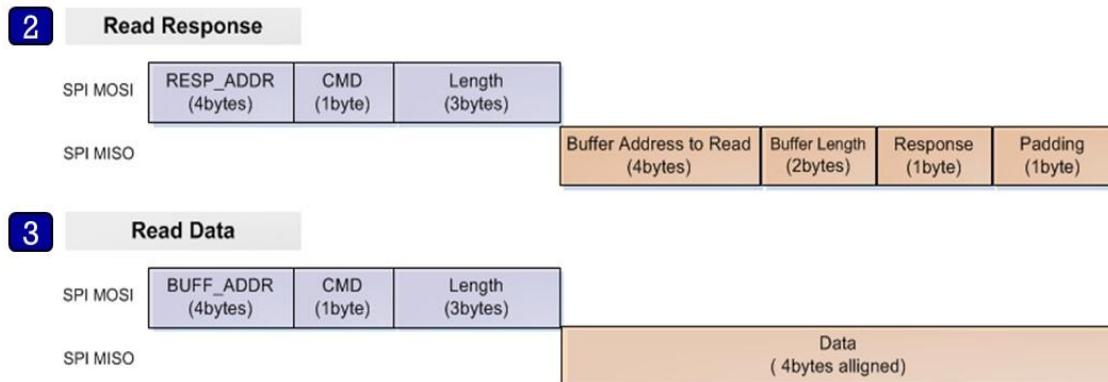

Figure 5: Structure for Read Operation
2. The Host reads the response message from Response Command address (0x50080258, blue rectangle in Figure 5) and parses it using `struct _st_host_response` (see Table 6).
3. The Host reads data from address (BUFF_ADDR) which is received from Slave in the response message (green rectangle in Figure 5).